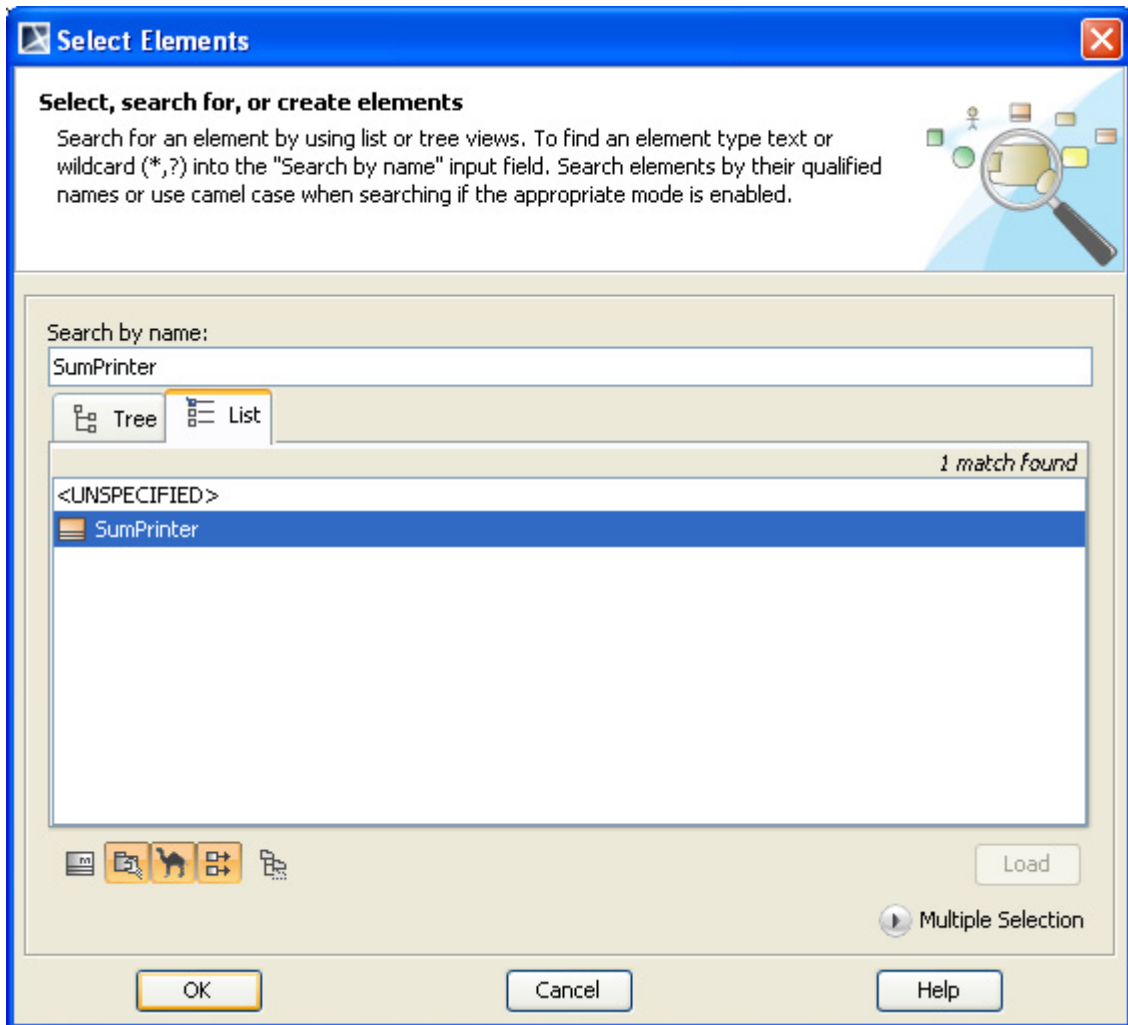

Figure 73 -- The Select Element Dialog of the Selected Classifier
4. Click the **Classifier** field button. The **Select Element** dialog will open (Figure 73).